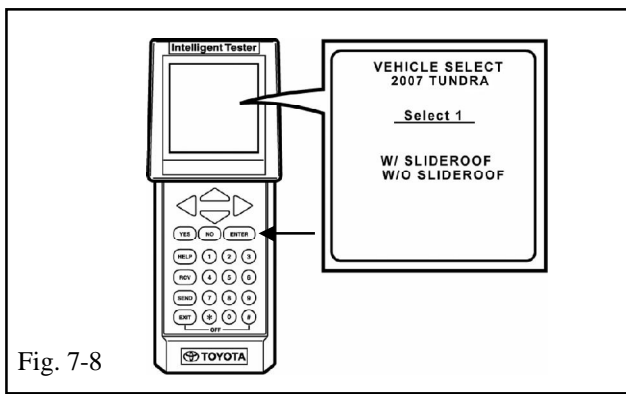

Fig. 7-8
- (j) Select the Slide Roof Option that is Equipped on the Vehicle with the scroll key, then press "ENTER." (Fig. 7-8)